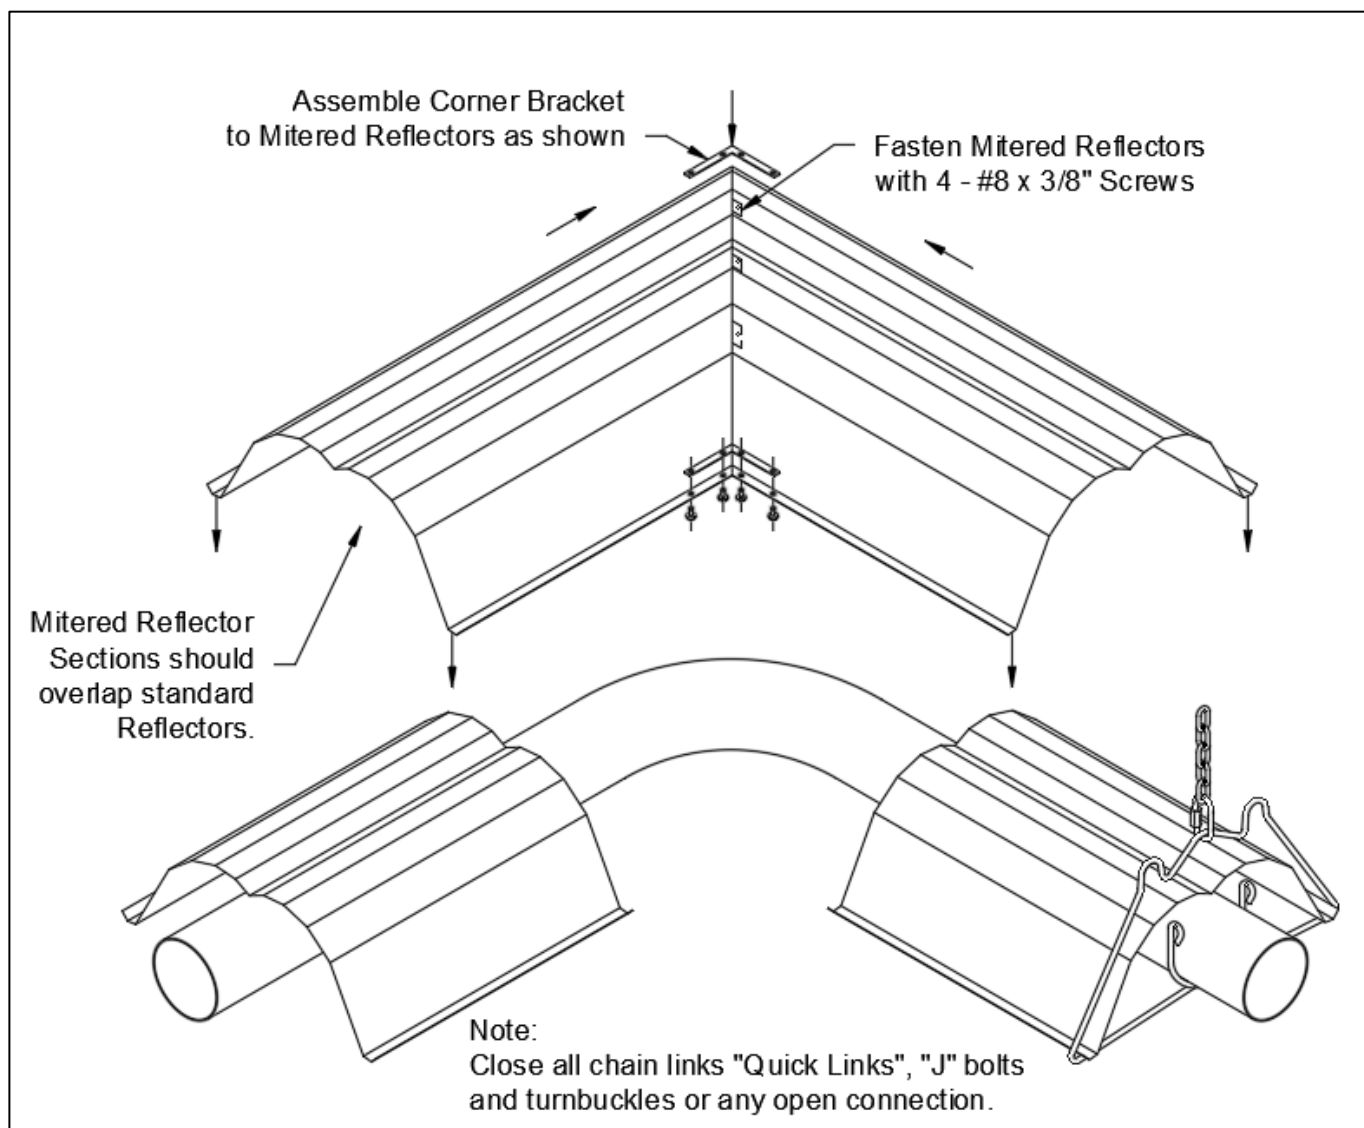

Figure 18: Mitered Reflector Installation
**Note:** Elbows or U-tubes are typically installed without reflectors. To reduce the above clearance to combustibles distance use miter reflectors (see Figure 18) and refer to Clearance to Combustibles information.
- If used, install the Mitered Reflector as shown below (Figure 18).